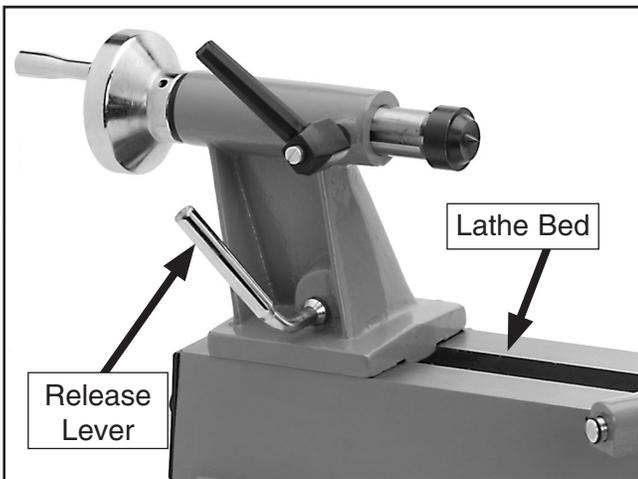

Figure 13. Tailstock controls.
1. Loosen the release lever and move the tailstock to the desired position (**Figure 13**).